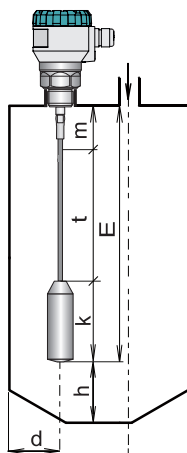

Fig. 18: Level meter installation with the rope electrode
- When calculating the length of the rope electrode, it is necessary to take into account that the measurement takes place only up to the upper edge of the weight, i.e. it is advisable to choose the electrode length so that the whole weight is below the minimum measured level, see Fig. 18. **For variants 30 and 34, it is possible to shorten the rope electrode.**
- The distance the electrode from the tank wall must be at least 300 mm. Otherwise, the level meter install as far as possible from the walls, to the middle between the wall and the vertical inlet, see Fig. 18. It must be ensured that the rope electrode could not touch the vessel wall caused by the motion of the medium. In the case of an unanchored rope electrode, its end must not extend into the conical part of the storage tank.